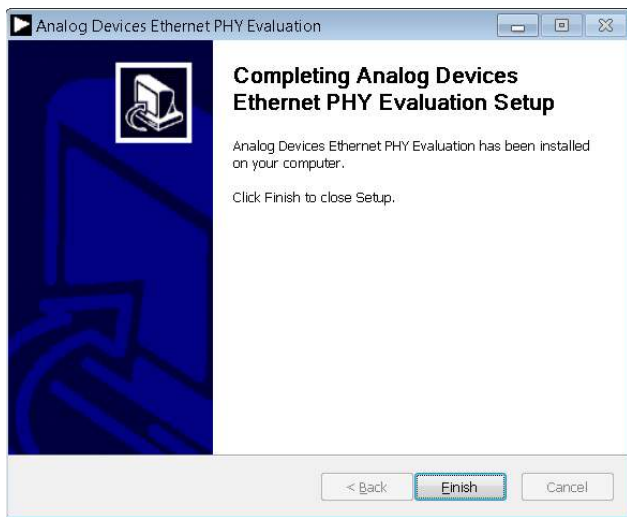

Figure 11. Installation Complete
7. A window appears stating that the installation is complete. Click **Finish** to continue (see Figure 11).